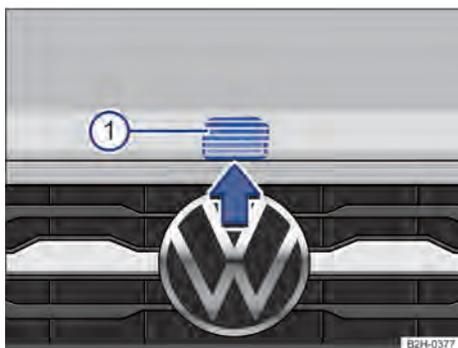

Fig. 181 Above the radiator grille: operating lever for the engine compartment lid.
3. Lift the engine compartment lid using the unlocking lever and open it completely → Fig. 181 ①.